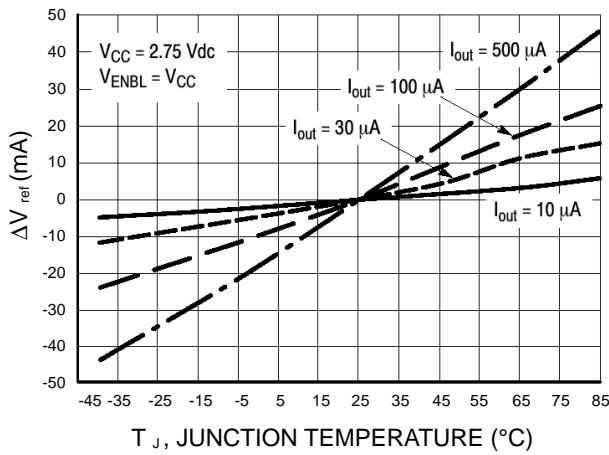

Figure 2.  $\Delta V_{ref}$  versus  $T_J$  @  $I_{out}$
- Step 4: Choose  $I_{out}$  keeping in mind that too large an  $I_{out}$  can impair MDC5000  $\Delta V_{ref}/\Delta T_J$  performance (Figure 2) but too large an  $R_6$  can cause  $I_{DGO}$  &  $I_{GSO}$  to bias on the FET.